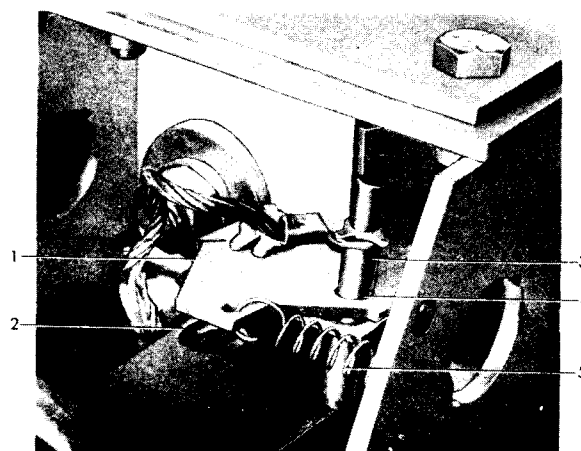

Fig. 10 Closing Spring Gag Interlock
The closing spring gag interlock is provided on the breaker to prevent a breaker that has a gagged closing spring from entering the metalclad unit. This is accomplished by projecting a lever, (1) Fig. 10, out of the left side of the mechanism when the closing spring is gagged.
- (2) Insert the close spring blocking pin, (3) Fig. 10, by carefully removing it from its storage hole, rotating the interlock lever and inserting it in the blocking hole.
- (3) CAUTION: If the manual close button is not pressed prior to performing step 4, the breaker will be damaged. **PRESS THE MANUAL CLOSE BUTTON TO PARTIALLY DISCHARGE THE CLOSING SPRING AGAINST THE BLOCKING PIN.**